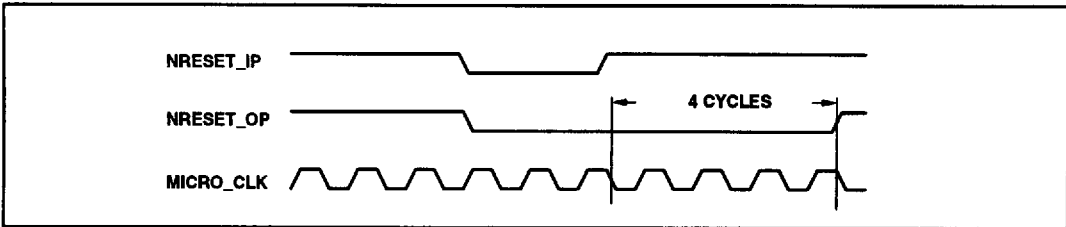

Fig. 12 : NRESET\_IP Hardware Reset Generation
**NRESET\_IP:** In addition to the 3 reset sources described above, an active Low NRESET\_IP pin is available in Standard Interface mode if the system resets are to be generated externally. Fig. 12 shows a NRESET\_IP generated reset.